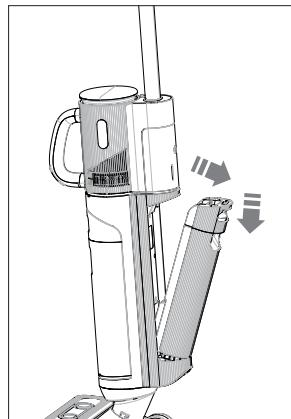

Fig. 6 – Removing the water tank
- ▶ Hold the recessed grip of the fresh water tank (14) and press the fresh water tank release button (15) downwards.
- ▶ Pull the fresh water tank out of the appliance body (**see Fig. 6**).